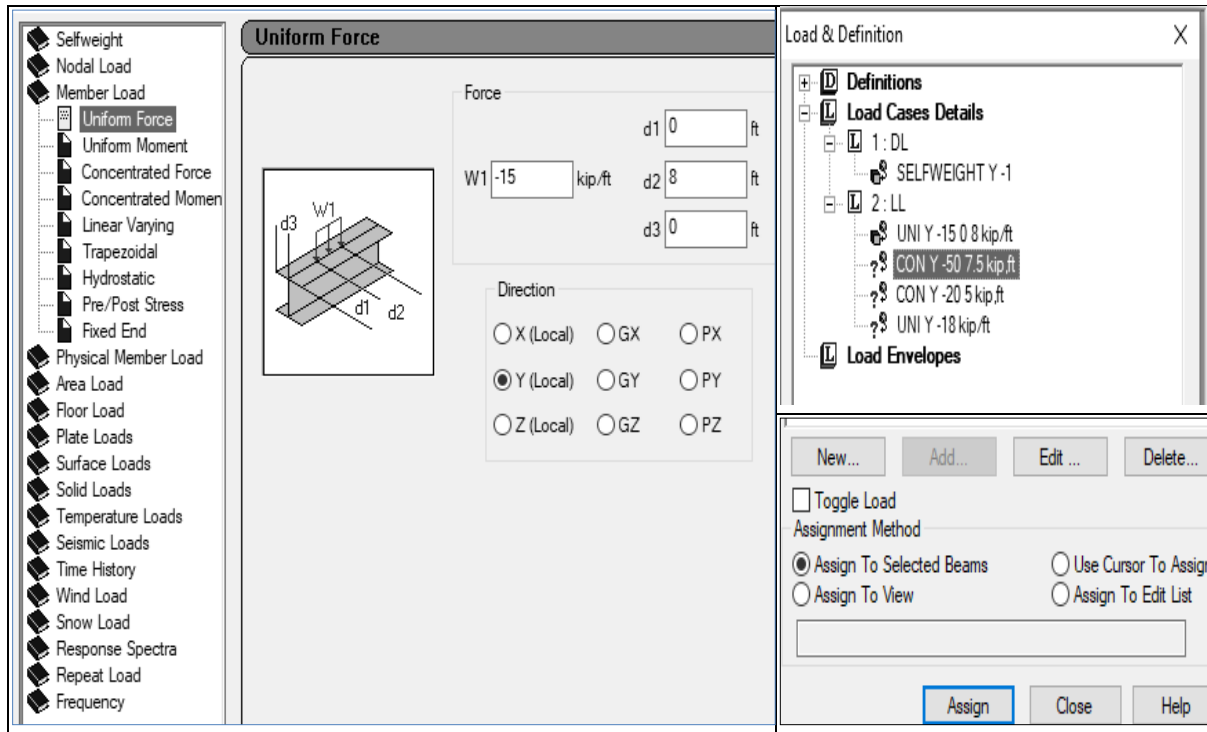
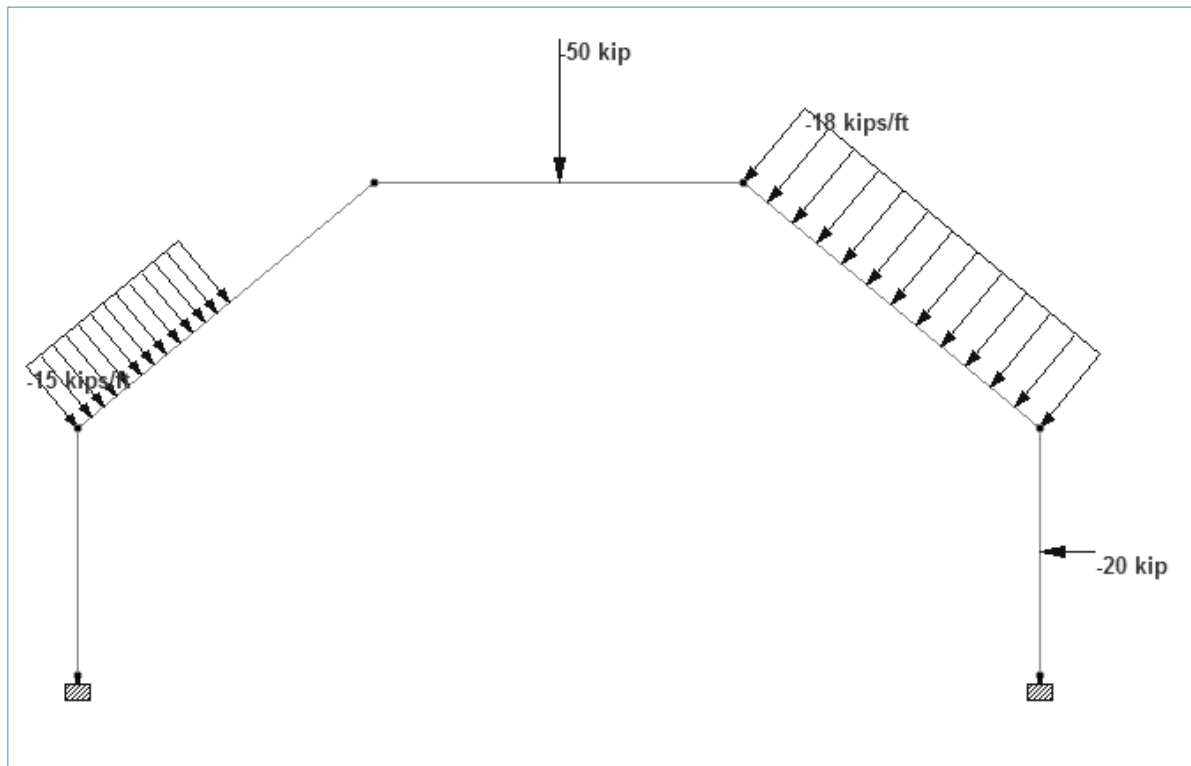

Fig: 3.9
Fig: 3.10
- For Given loads: Again Live Load or LL → Add → Member Load → Uniform Force → W1 = -15 kip, d1 = 0 ft, d2 = 8 ft → Direction = Y(Local) → Add → Close, then click on defined force and select the required Beam → Assign to selected Beams → Assign → Yes. (Fig: 3.9 & Fig: 3.10)